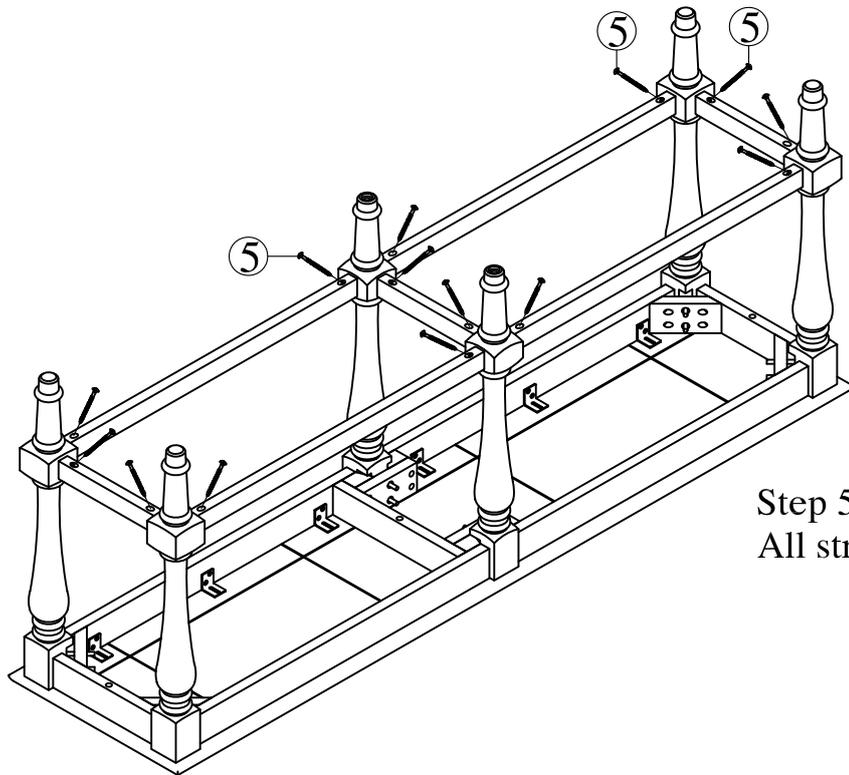

Fig.5
Step 5 : Insert Wood Screw (5) to fasten All stretchers (D, E) as shown on Fig. 5.